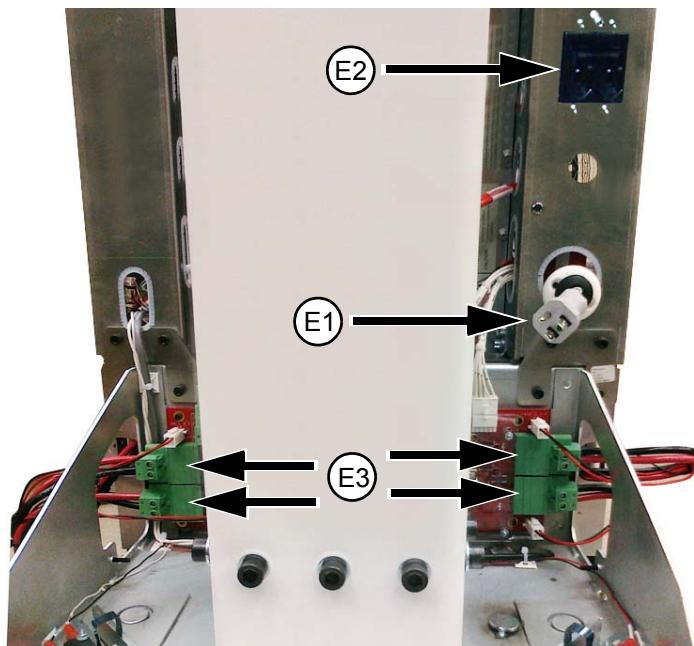

Figure 1-2 Electrical energy lockout locations
2. Locate the AC power plug (E1), system circuit breaker (E2), and battery connectors (E3). See Figure 1-2.